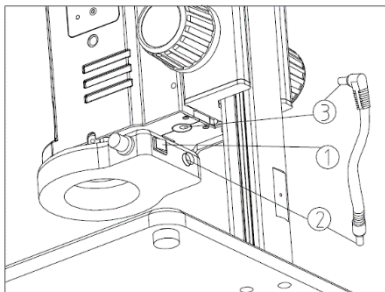
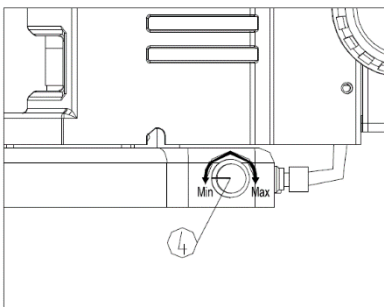

Fig. 6
Fig. 7
- 1) Insert one end of the power cord plug ② into the bottom of the body group, and the other end into the ring light ③. Turn on the switch ① to start the ring light. (See Fig. 6)
- 2) Rotate the light adjustment knob ④ to adjust the illumination brightness. Rotate the light adjustment knob clockwise to increase, and counterclockwise to decrease the brightness. (See Fig. 6 & Fig. 7)